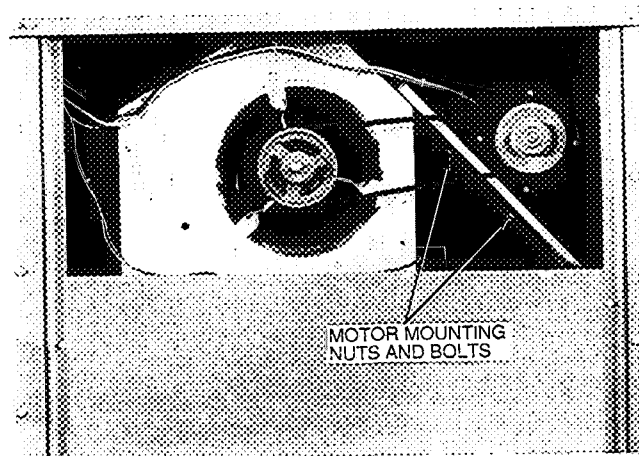

Fig. 22 — Belt-Drive Motor Mounting
2. Loosen belt by loosening fan motor mounting nuts. See Fig. 22.